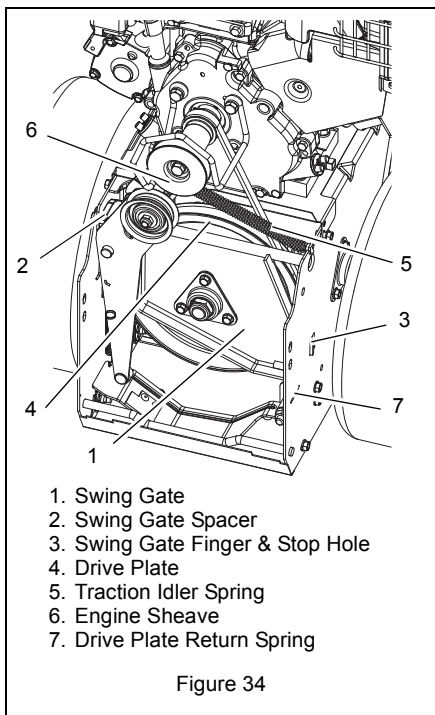

Figure 34
2. With traction clutch disengaged, check that swing gate finger touches the side of stop hole closest to auger housing (Figure 34).
(Figure 34)